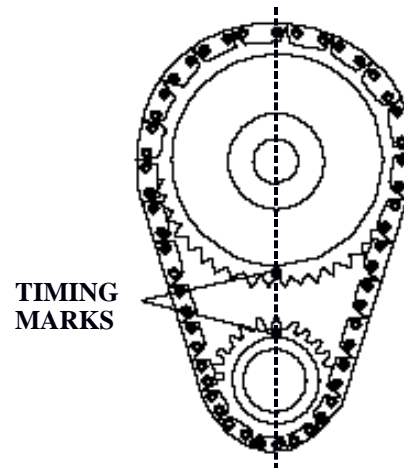

Figure 2- Timing Chain Sprocket Alignment
13. Rotate engine until timing marks are aligned as shown in Figure 2.
by factory specifications. See Figure 2.
After the cam is installed and timed correctly (see Figure 2), it will be necessary to check each pushrod for correct lifter preload.